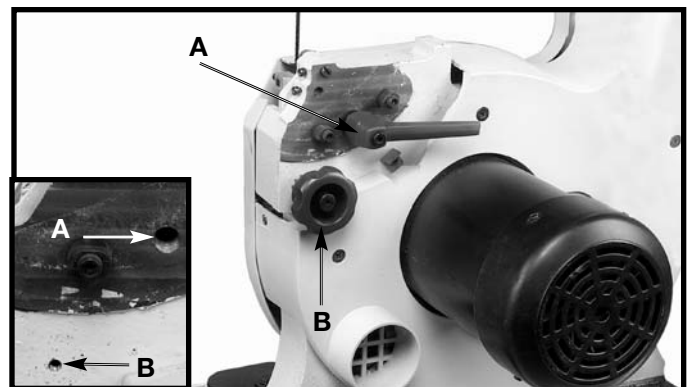

Fig. 10
1. Remove table locking lever (A) Fig. 10 and table tilt pinion knob (B). Be careful not to lose these parts. (These components were assembled at the factory for transit purposes only).